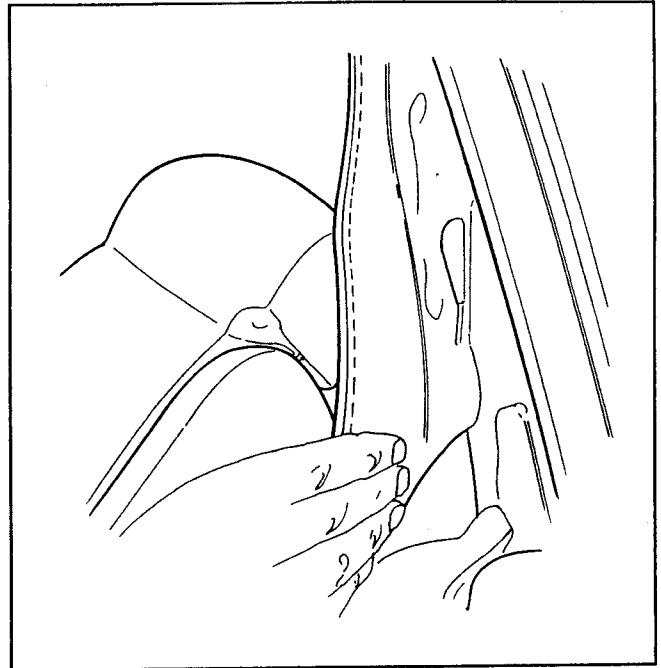

Figure 25. Attach Headliner
10. Attach the headliner flaps to the pivot bracket area (Fig. 25).